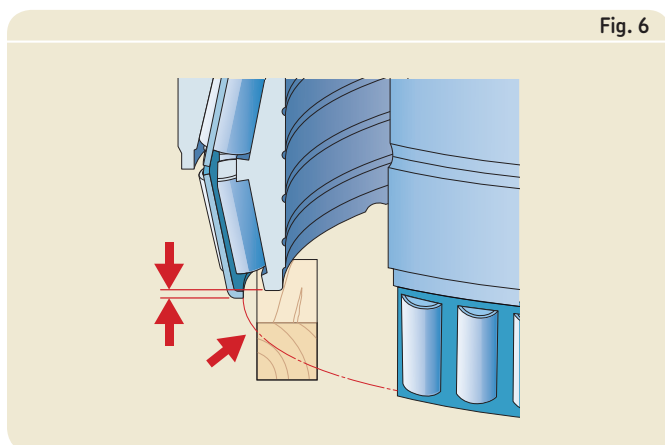

Fig. 6
- Place wooden blocks under the inner ring C-D so that they do not come into contact with the cage (→ **fig. 6**) as otherwise the cage may be damaged